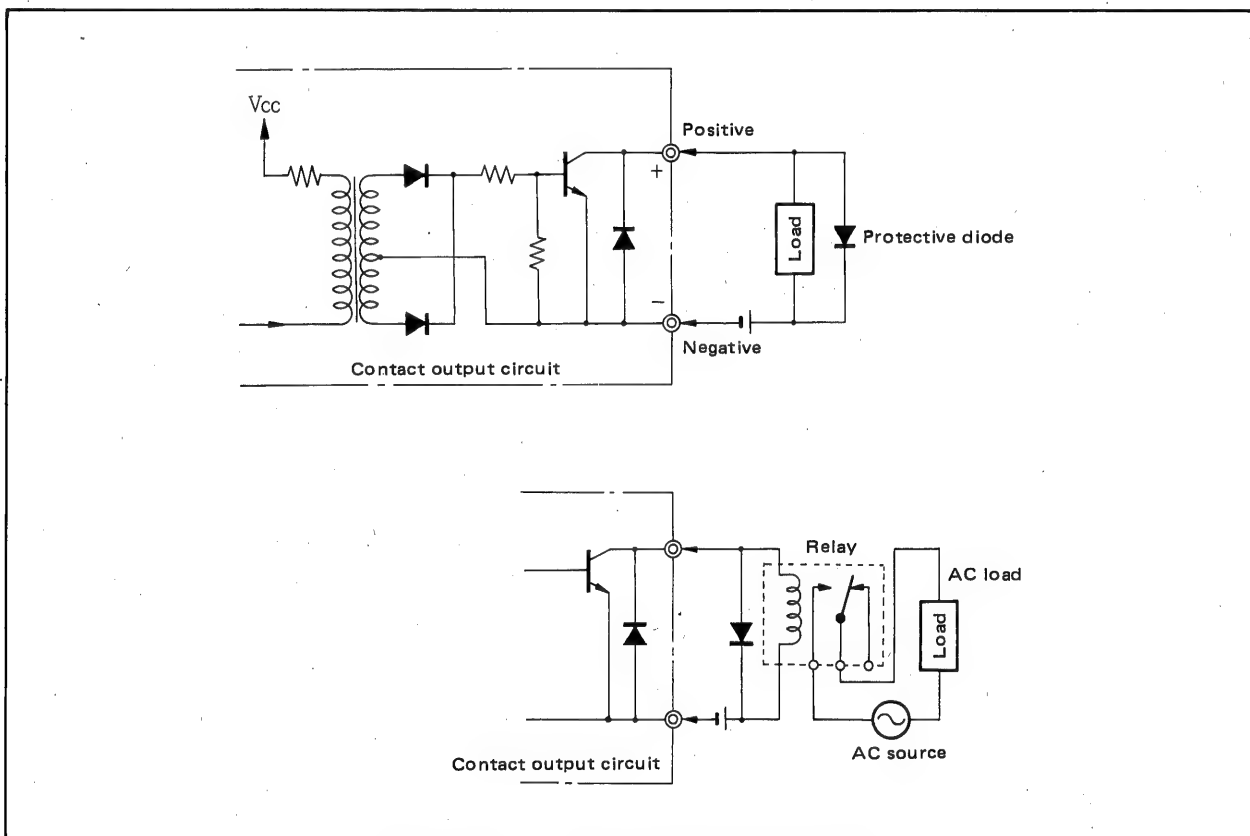

Figure 3-1-3. Contact Output Connections.
- (1) Be sure to use solderless crimp-on lugs on all cable connections.
- (2) Each status (contact) and voltage input must be of the proper rating. Note the limits on leadwire resistance, voltage drop across leadwires, and voltage (high/low) levels.
- (3) The fail and status (contact) outputs are transistor contact signals (isolated from power supply and other internal circuitry). When connecting external devices, pay attention to the following (see Figure 3-1-3):
- (4) The status (contact) inputs and outputs are designated by program, so wire them after confirmation of the program. If not designated, status (contact) signals 1 to 3 are input (DI) and status signal 4 to 6 are output (DO).
- (5) Use shielded twisted-pair SCCD cables for communication lines (terminals 17 and 18).
- (6) Short current output terminals not in use.